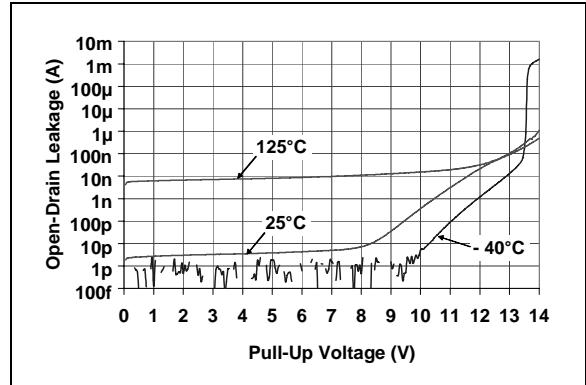

FIGURE 2-28: Open-Drain Leakage Current vs. Voltage Applied to V_{OUT} Pin (MCP111-195).
- Note 3:** This specification allows this device to be used in PICmicro[®] microcontroller applications that require the In-Circuit Serial Programming[™] (ICSP[™]) feature (see device-specific programming specifications for voltage requirements). This specification DOES NOT allow a continuous high voltage to be present on the open-drain output pin (V_{OUT}). The total time that the V_{OUT} pin can be above the maximum device operational voltage (5.5V) is 100 sec. Current into the V_{OUT} pin should be limited to 2 mA. It is recommended that the device operational temperature be maintained between 0°C to 70°C ($+25^\circ\text{C}$ preferred). For additional information, please refer to Figure 2-28.